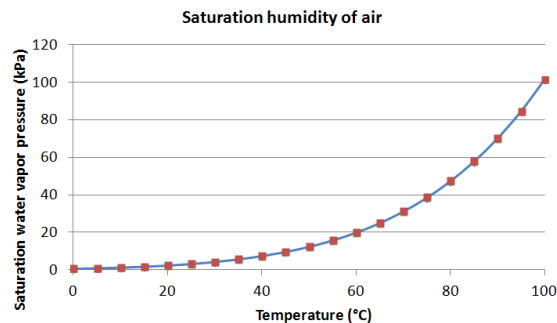

Figure 4: Saturation partial pressure of water vapor vs temperature.
The influence of humidity on the TCG can best be described using the absolute humidity (AH) or partial vapor pressure in kPa, this is for measurements at sea level (100 kPa total pressure). Then, this influence is mostly temperature independent. Fig. 4 below shows that the saturation partial pressure of water vapor vs temperature rises quickly with temperature, and at temperatures around 80 °C the influence is very large. A fortunate property of the TCG is that at